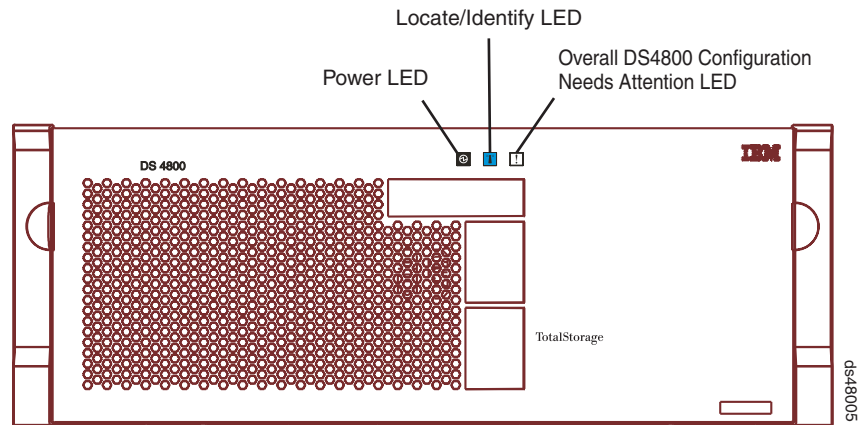

Figure 98. Overall DS4800 Configuration Needs Attention LED on the DS4800 front bezel
2. Locate the storage subsystem that contains the interconnect-battery unit with the failed battery by checking the Overall DS4800 Configuration Needs Attention LED on the front bezel of the storage subsystem. (Figure 98 on page 165 shows the location of the Overall DS4800 Configuration Needs Attention LED on the front bezel.)